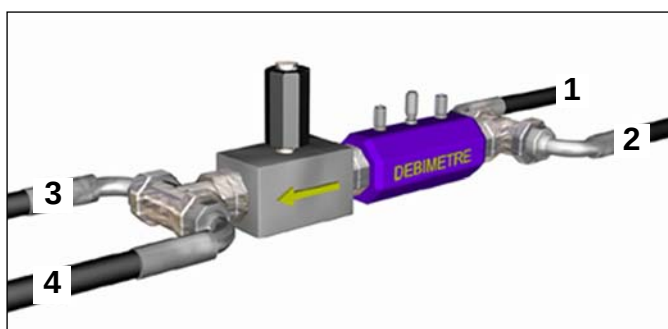

Fig. 2 Flow meter adaptation kit (Top-Test MX)
- small chambers of the dipper ram and intermediate boom ram (1 fig. 2) and (2 fig. 2).
- large chambers of the dipper ram and intermediate boom ram (3 fig. 2) and (4 fig. 2).